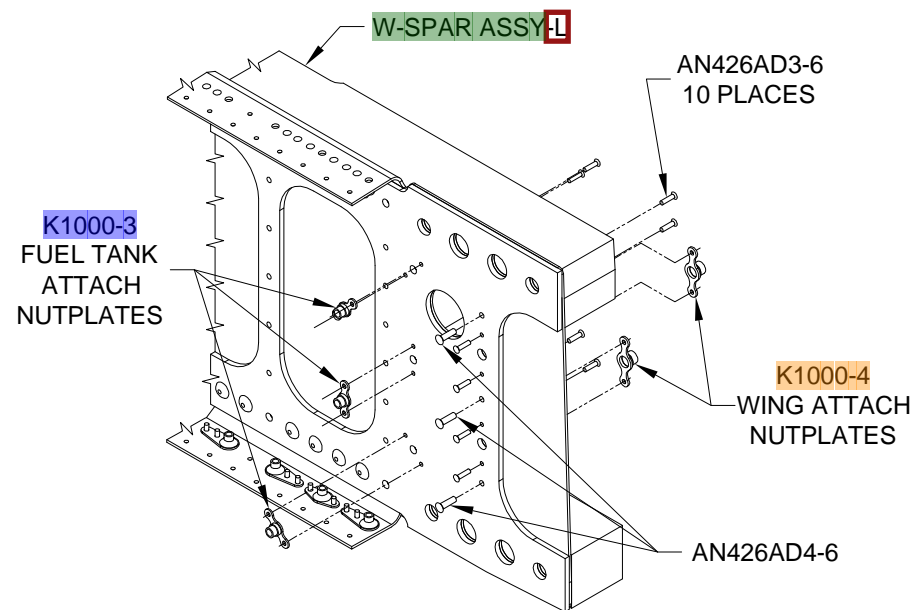

FIGURE 1:
Step 1: Run a #40 drill through all the 3/32 diameter fuel tank attach nutplate and wing attach nutplate rivet holes in the web of the W-SPAR ASSY-L Spar Assembly - Left. See Figure 1.
Step 2: Run a #30 drill through the three spar doubler to spar web rivet holes in the web of the W-SPAR ASSY-L Spar Assembly - Left. See Figure 1.
Step 3: Machine Countersink the nutplate attach rivet holes in the web of the W-SPAR ASSY-L Spar Assembly - Left. Countersink just deep enough to fit the head of an AN426AD3 rivet. The countersinks for the fuel tank attach nutplate rivet holes are on the forward side of the spar assembly and the countersinks for the wing attach nutplate rivet holes are on the aft side of the spar assembly. See Figure 1.
Step 4: Machine Countersink the aft side of the W-SPAR ASSY-L Spar Assembly - Left for the three AN426AD4 rivets shown in Figure 1. Countersink just deep enough to fit the head of an AN426AD4 rivet. Install the three rivets as shown in Figure 1.
Step 5: Rivet the fuel tank attach nutplates and wing attach nutplates to the W-SPAR ASSY-L Spar Assembly - Left as shown in Figure 1.